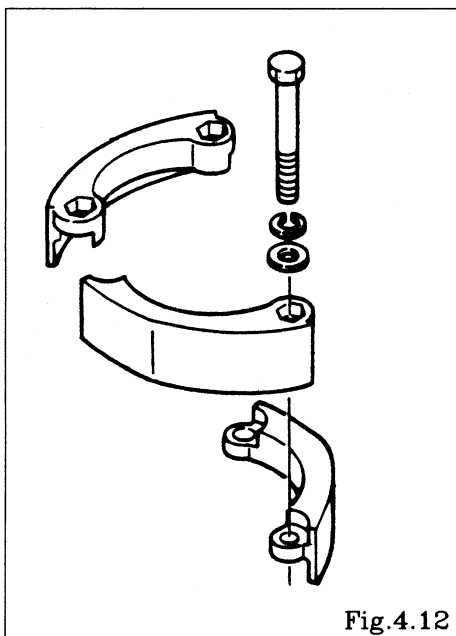

Fig.4.12
- Match the convex and concave parts of the protector. [Fig. 4.12] (NDP-50BP_, BV_, NDP-80BP_)